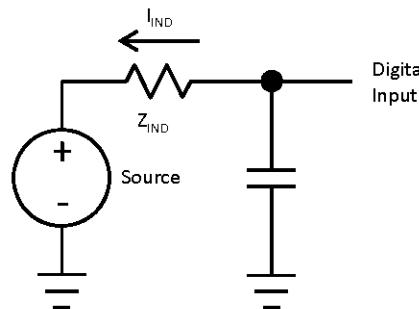

Figure 2. 5 V Tolerant Input IIND Parameter
5. Examples calculated using V_{IL} relation, V_{DD} , and max I_{IND} : $Z_{IND} = V_{IL}/I_{IND}$. This is the impedance needed to pull a high signal to a level below V_{IL} due to leakage when $V_{IL} < V_{IN} < V_{DD}$. These examples assume signal source low = 0 V. See Figure 2.